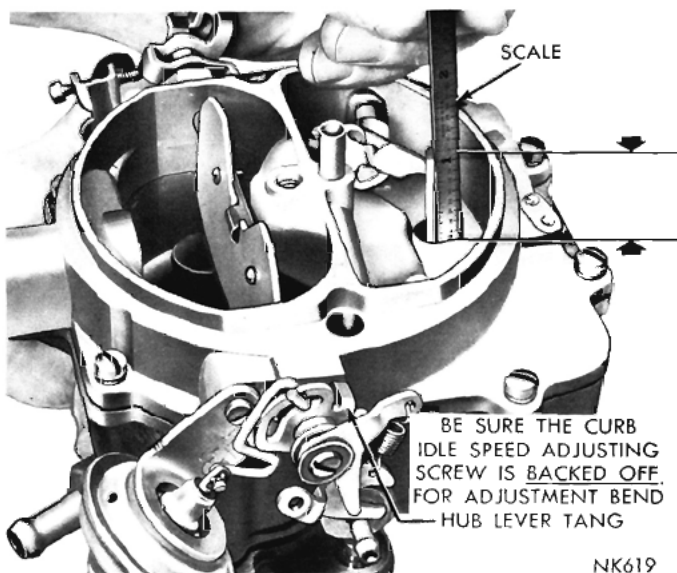

Fig. 9—Measuring the Accelerator Pump Setting
(1) Back off the idle speed adjusting screw. Open the choke valve so that the fast idle cam allows the throttle valves to be completely seated in the bores. Be sure that the pump connector rod is installed in the center hole of the throttle lever.
(2) Close the throttle valves tightly. Measure the distance between the top of the air horn and the end of plunger shaft, as shown in (Fig. 9). This measurement should be  $1'' +$  or  $- 1/64$  inch.
(3) To adjust pump travel, bend the pump connector rod, using Tool T109-213, at the lower angle of rod, until correct setting has been obtained.